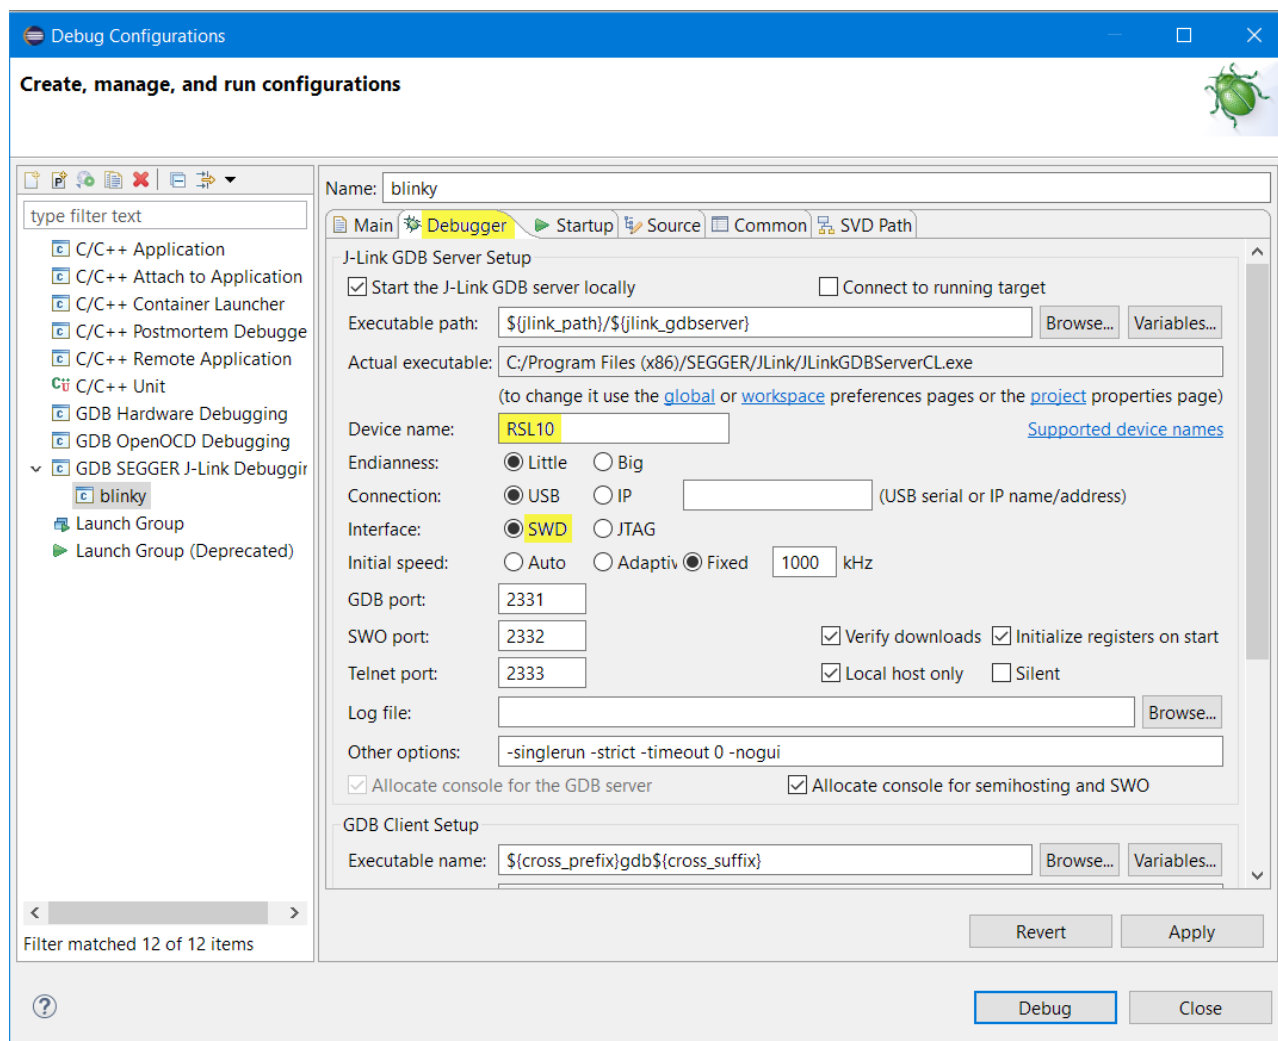

Figure 10. Setting Up a GDB Launch Configuration, Debugger Tab
3. Change to the **Debugger** tab, and enter RSL10 in the **Device Name** field. Ensure that **SWD** is selected as the target interface (as shown in the figure "Setting Up a GDB Launch Configuration, Debugger Tab" (Figure 10)).